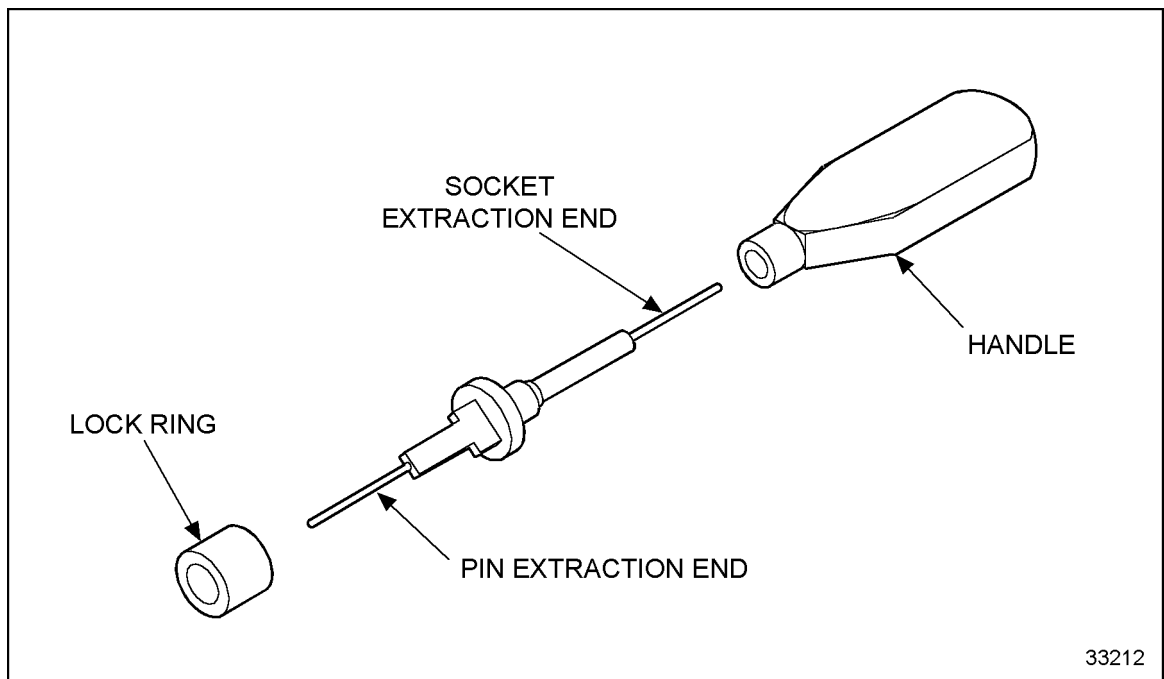

Figure 3-57 Extraction Tool
2. Use extraction tool, ITT Canon P/N: CET-F80-16 (see Figure 3-57).